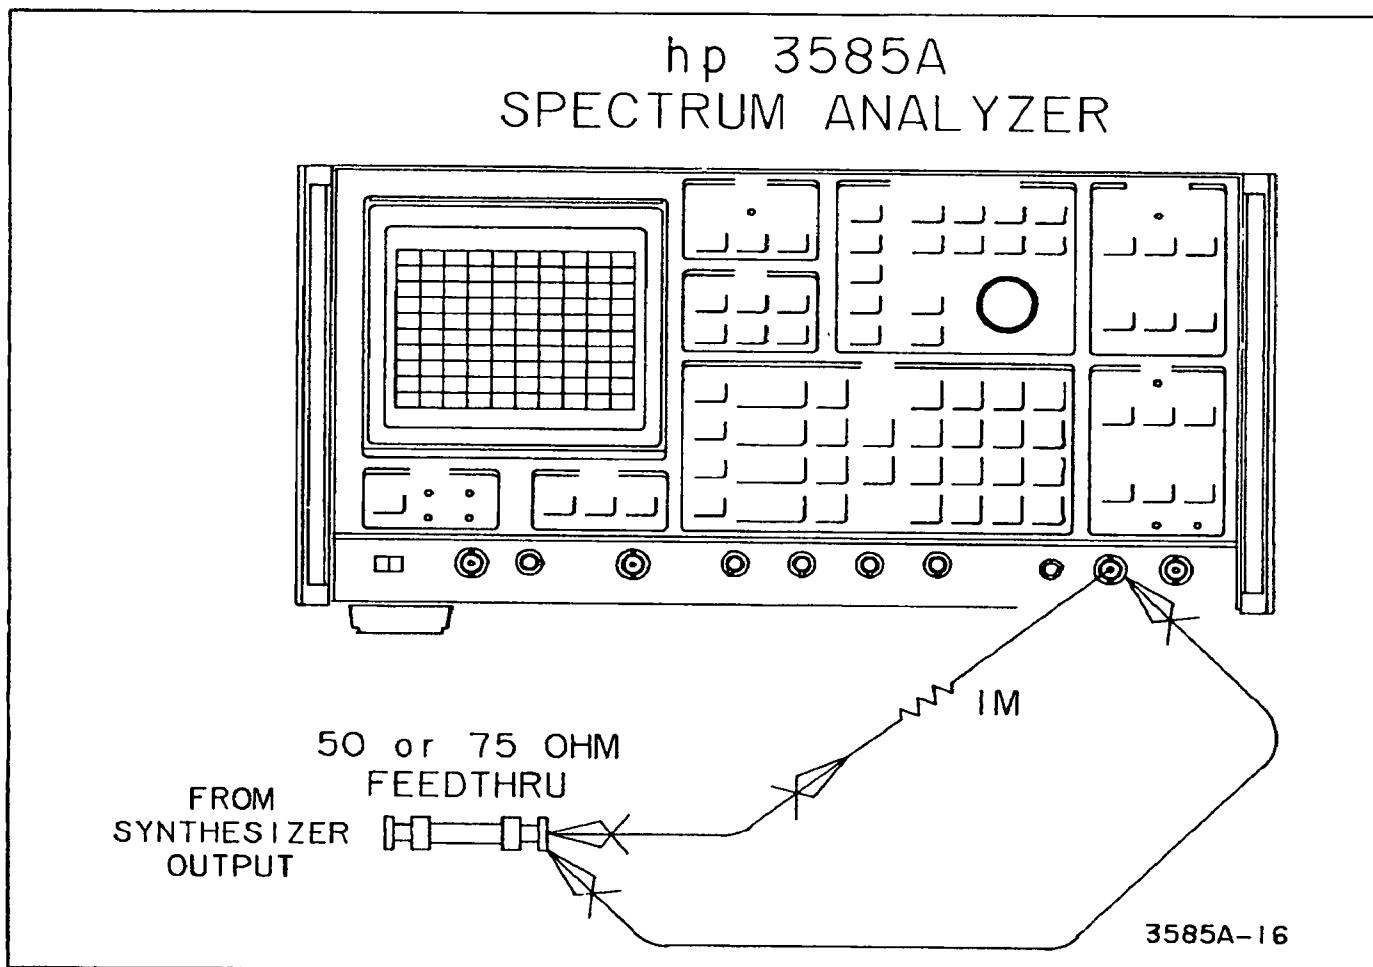

Figure 4-2. 1 M Ohm Input Impedance Test.
- e. Using short clip leads, insert the  $1 \text{ M}\Omega$  resistor between the output of the termination and the 3585A  $1 \text{ M}\Omega$  input as shown in Figure 4-2.